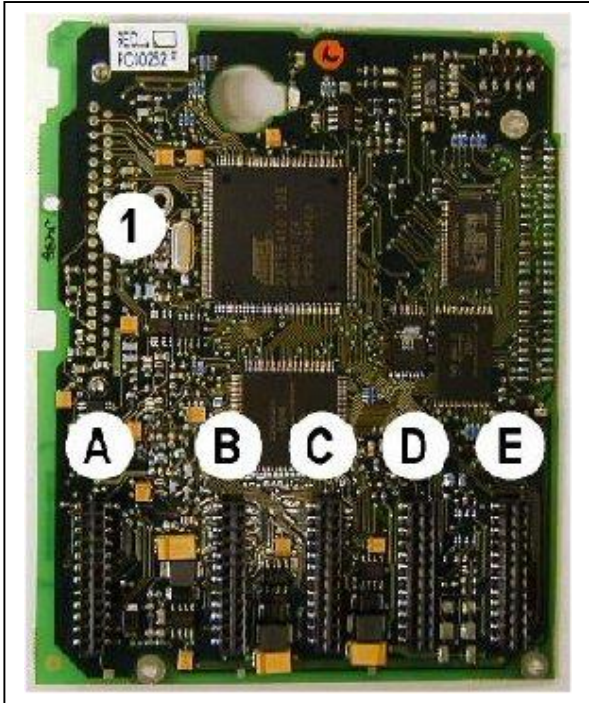

Figure 6-7. control board
The control unit of the inverter consists of the control board and option boards (see Figure 6-7 and Figure 6-20) connected to the five slot connectors (A to E) on the control board. The control board is connected to the power unit through a D connector (1).